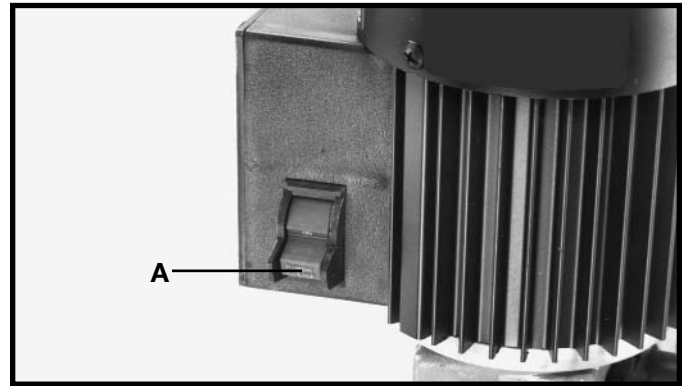

Fig. 26
The switch (A) Fig. 26, is located on the side of the motor. To turn the machine **“ON”**, move the switch (A), up to the **“ON”** position. To turn the machine **“OFF”**, move the switch down to the **“OFF”** position.